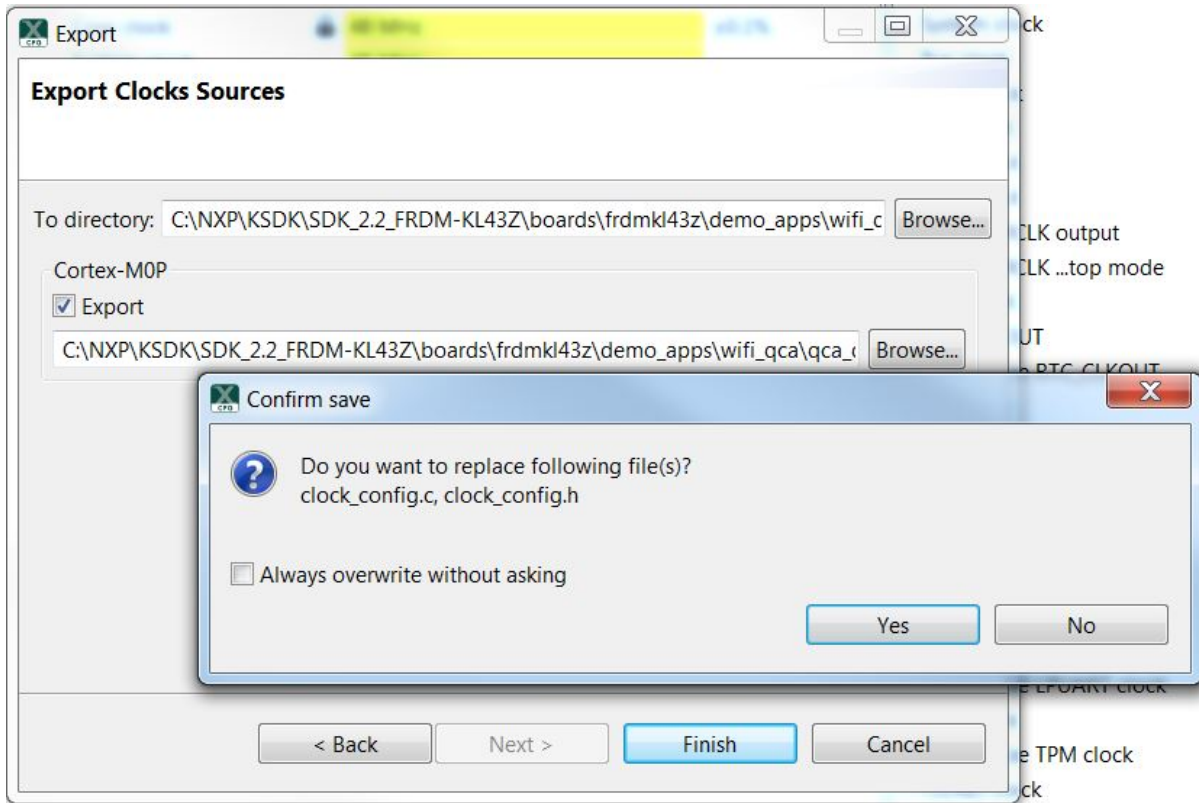

Figure 39. Exporting clocks config files
3. Choose the FRDM-KL43Z SDK folder and export files to it. An alert is pop up. Click the 'Yes' button (MCUXpresso SDK renames old files to .bak as in shown in Figure 39).